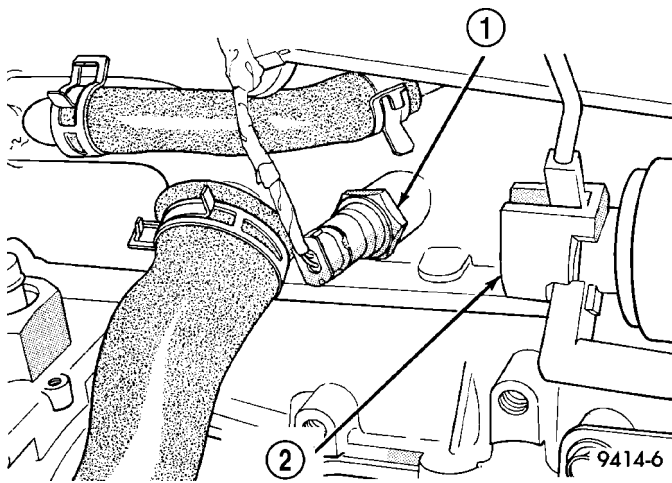

Fig. 132 Knock Sensor
- (8) Disconnect knock sensor electrical connector (Fig. 132).